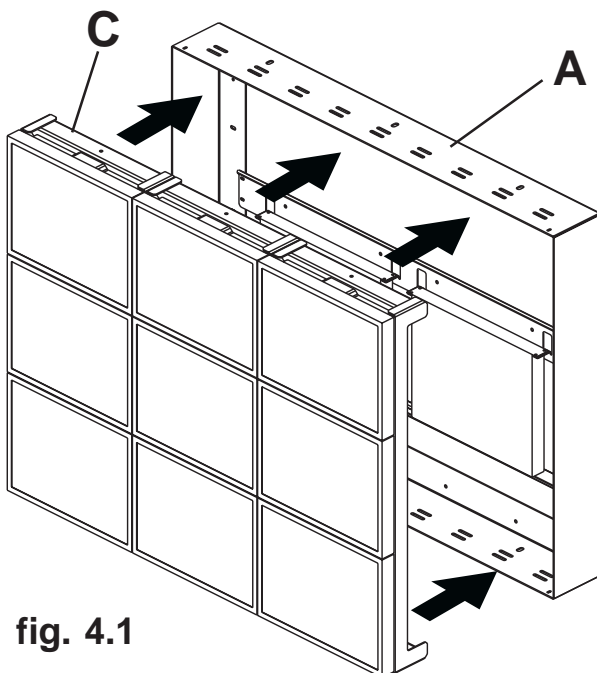

fig. 4.1
4 Insert vertical frames (C) into wall frame (A) as shown in figure 4.1. Secure vertical frames (C) to wall frame (A) using six M10 x 30 mm (G) screws and six M10 flat washers (F) as shown in figure 4.2.